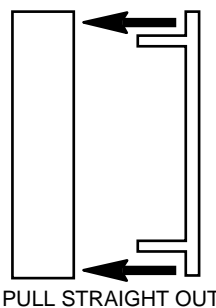

Figure 2. Removing thermostat from subbase
1. Remove the packing material from the thermostat. Place the fingers of one hand on the center top and bottom portion of the thermostat. Grasp the subbase in the other hand on the top and bottom center, and gently pull straight out (see fig. 2). The thermostat has pin and socket connectors. Forcing or prying on the thermostat will cause damage to the unit.